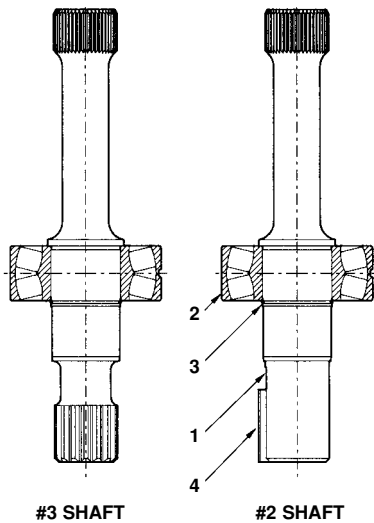

FIGURE 1
See figure 1. Slide the bearing (2) over the short end of the shaft and seat against the shoulder. Support only the inner race of the bearing and press on the long end of the shaft, to install bearing.
PARTS LIST FOR FIGURE 1 S23-12474 DRIVE SHAFT #3 ASSEMBLY SPLINED S23-12475 DRIVE SHAFT #2 ASSEMBLY KEYPED